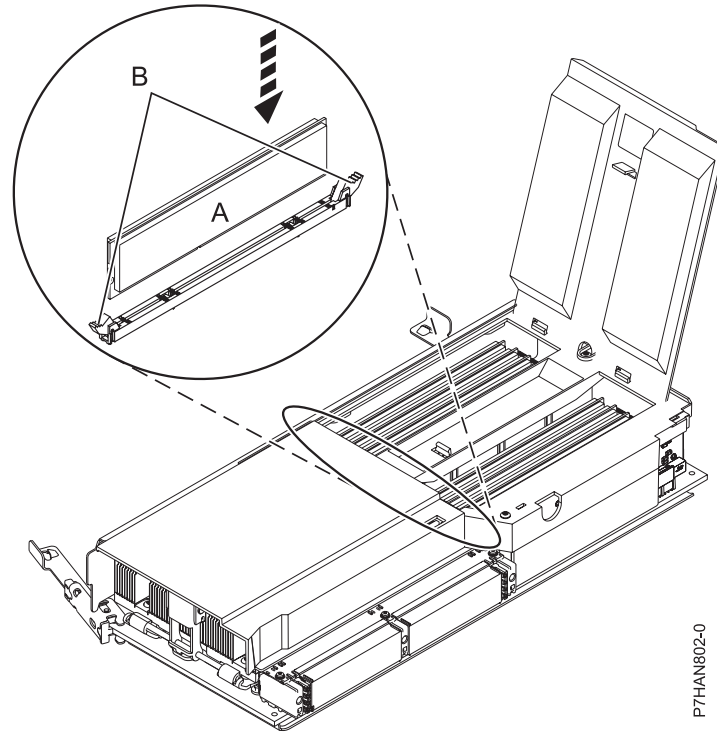

Figure 6. Replacing a memory module
7. Insert the memory module firmly into the connector **(A)**, as shown in Figure 6.
8. Secure the memory module with the locking tabs **(B)** located at each end of the memory module connector, as shown in Figure 6.